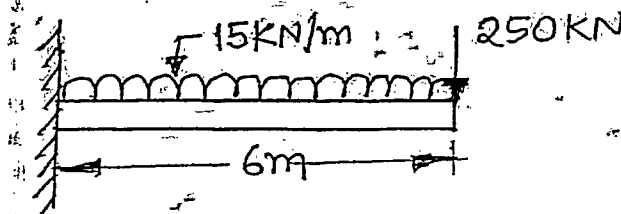

Fig.Q5(b)
b. For the beam and loading as shown in Fig.Q5(b), determine deflection, slope and support reaction. Take $E = 110 \text{ GPa}$, $I = 5 \times 10^{-4} \text{ m}^4$. (08 Marks)